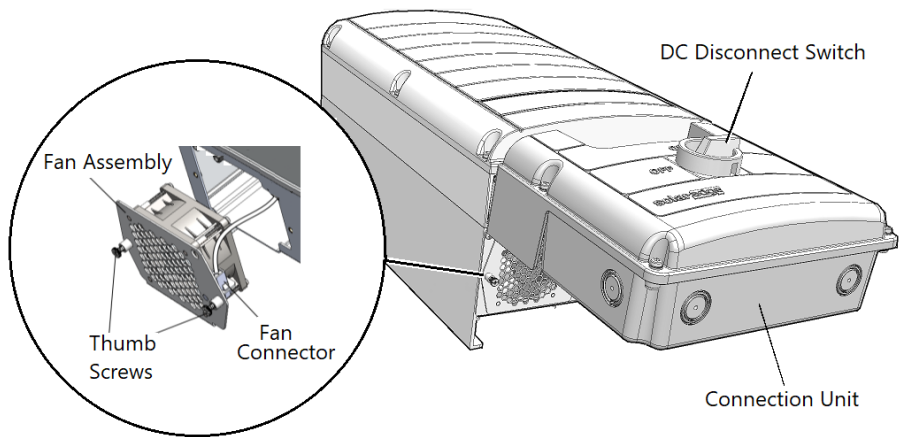

Figure 35: Removing the Fan Assembly
3. Unscrew and remove the two Thumb Screws securing the Fan Assembly to the inverter (see *Figure 35*).
7. Turn ON(I) the ON/OFF/P Switch of the inverter.